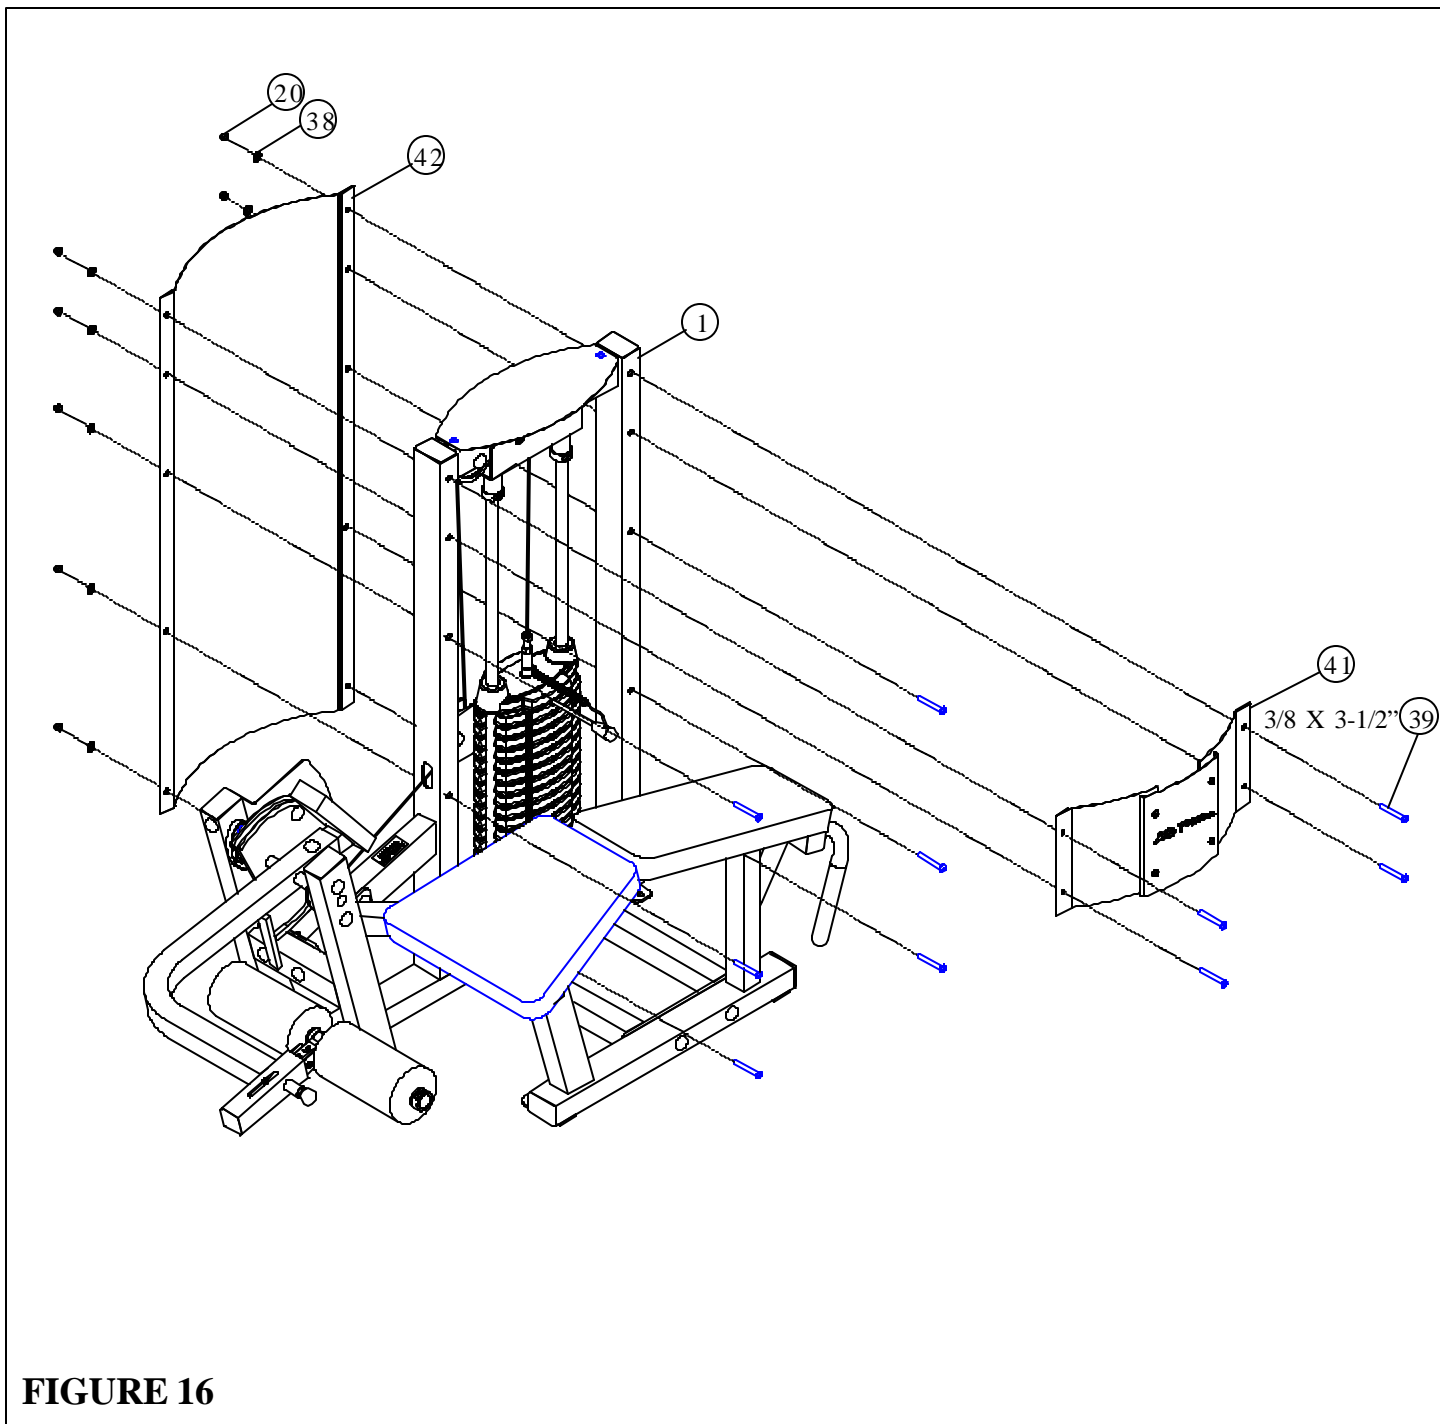

FIGURE 16
- **SECURELY** assemble the FRONT PARTIAL SHROUD (41) and the REAR PARTIAL SHROUD (42) to the TOWER (1) using ten 3/8 X 3-1/2" BUTTON HEAD BOLTS (39), ten STARLOCK WASHERS (38), and ten 3/8" ACORN NUTS (20) as shown in FIGURE 16.